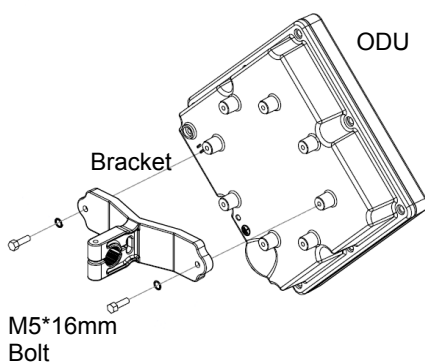

Figure 1
1. With the connector facing downward, attach the bracket to the two designated holes at the back of the ODU, as shown in Figure 1. Use the two M5*16mm bolts and spring washers. (Figure 1)